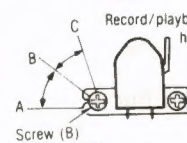
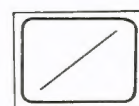

Fig. 3
Fig. 6
Adjust screw (B) in fig. 3 for maximum output L-CH and R-CH levels.
3. Turn screw (B) shown in fig. 3 to find angles A and C (points where peak output levels for left and right channels are obtained). Then, locate angle B between angles A and C, i.e., point where L-CH and R-CH outputs are balanced. (Refer to figs. 3 and 4.)
Adjust screw (B) in fig. 3 so that pointers of the two VTVMs swing to maximum and a lissajous waveform as illustrated in fig. 6 is obtained on the oscilloscope.